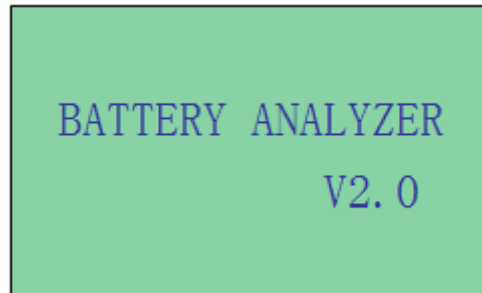

Figure 19
1. Attach the clips onto the battery terminal posts and the battery analyzer will power up and lights up the LCD display screen as shown (Fig.19).